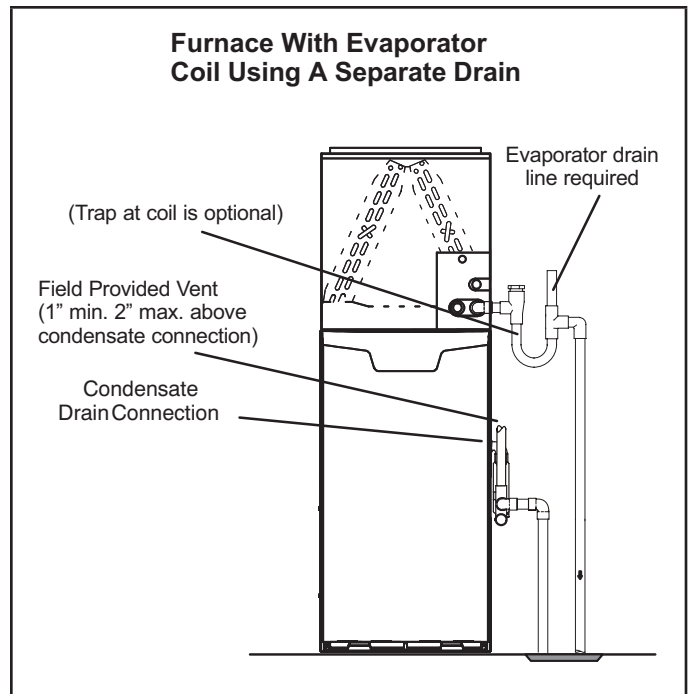
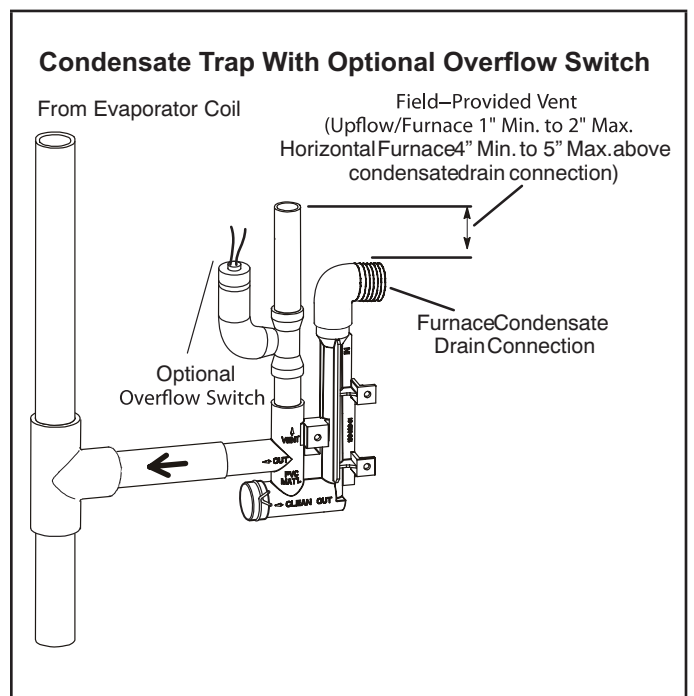
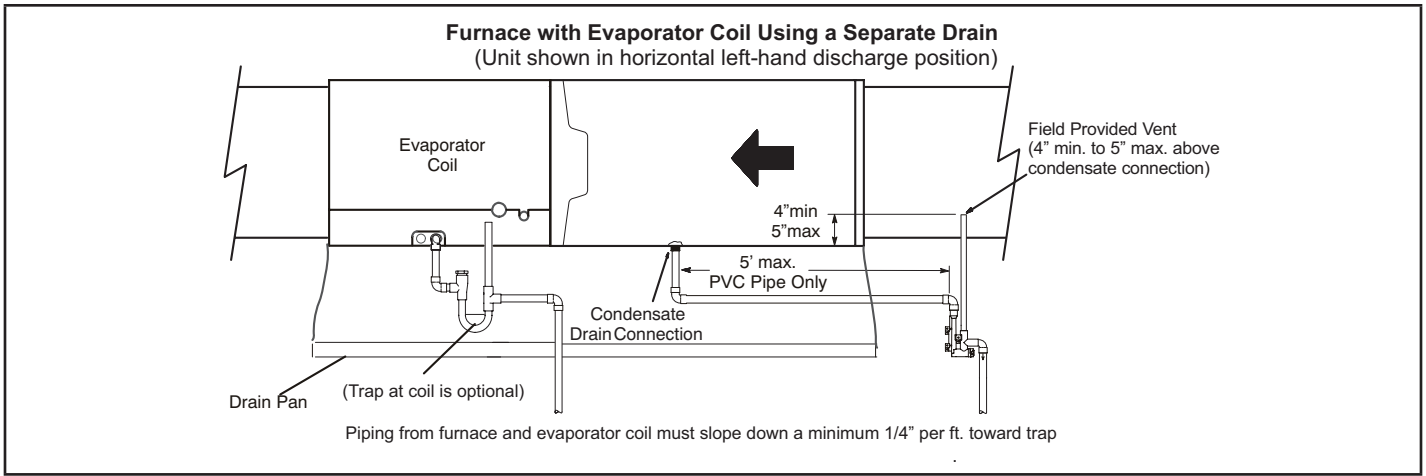
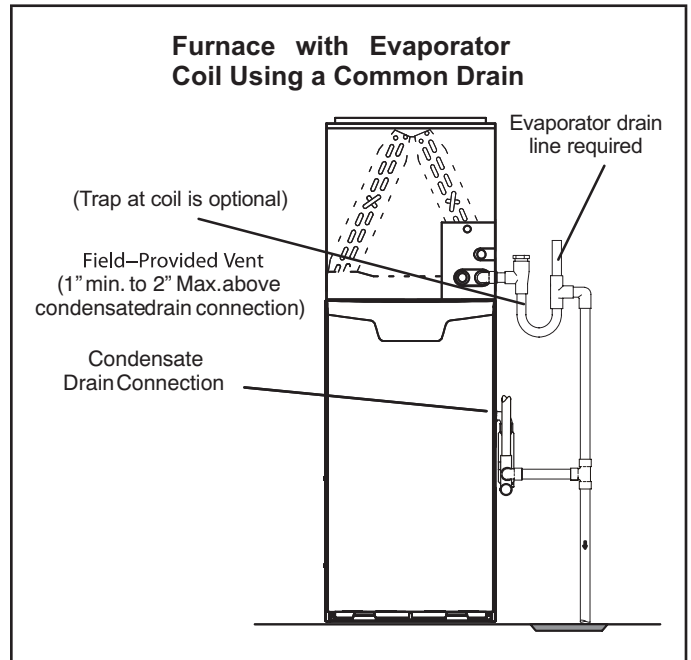

FIGURE 34
FIGURE 35
FIGURE 36
FIGURE 37
- 5 - FIGURE 34 and FIGURE 36 show the furnace and evaporator coil using a separate drain. If necessary the condensate line from the furnace and evaporator coil can drain together. See FIGURE 35, FIGURE 37 and FIGURE 38. **Upflow furnace (FIGURE 37)** - In upflow furnace applications the field provided vent must be a minimum 1" to a maximum 2" length above the condensate drain outlet connection. Any length above 2" may result in a flooded heat exchanger if the combined primary drain line were to become restricted. **Horizontal furnace (FIGURE 38)** - In horizontal furnace applications the field provided vent must be a minimum 4" to a maximum 5" length above the condensate drain outlet connection. Any length above 5" may result in a flooded heat exchanger if the combined primary drain line were to become restricted.